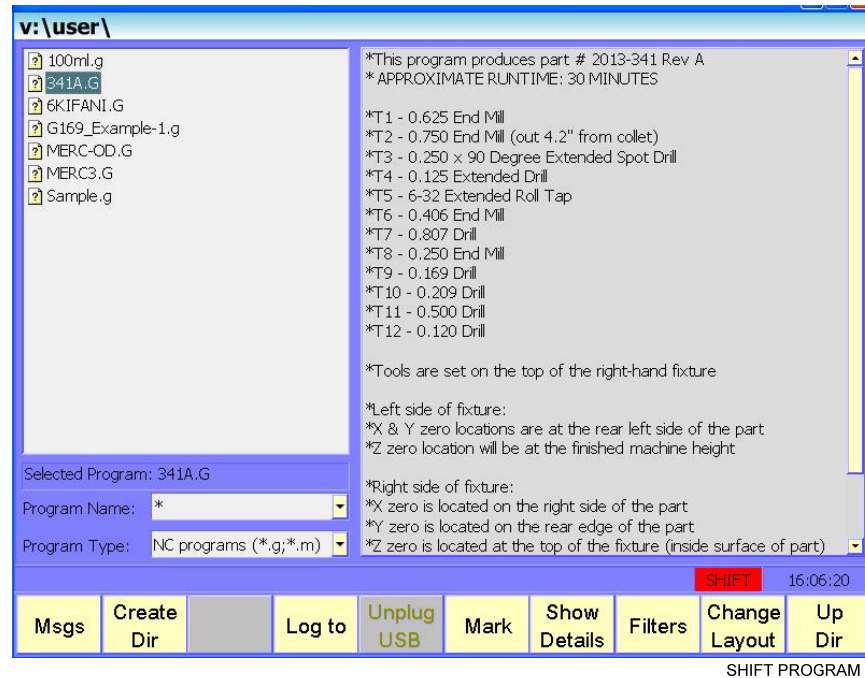

Figure 10-2, Shift Screen from Program Screen
Other functions related to the Program screen may be accessed using the **SHIFT** key. These functions are described in this section. Press the **SHIFT** key to display the Program Shift screen. Refer to **Figure 10-2, Shift Screen from Program Screen**.
Press **SHIFT** while in the Program screen to activate the secondary soft key functions (refer to **Figure 10-2, Shift Screen from Program Screen**). Refer to **Table 10-2, Program Screen Secondary Soft Keys**.
3. Press the **SHIFT** key on the keyboard to display the Shift screen from Program screen (refer to **Figure 10-2, Shift Screen from Program Screen**). Press **SHIFT** again to return to the Program screen.